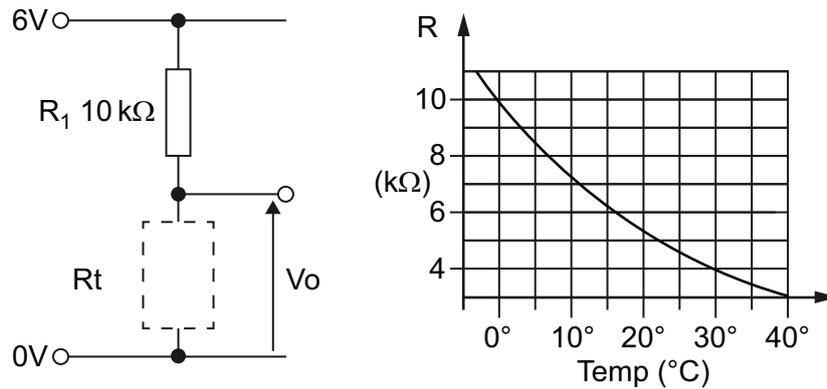

Fig. 2(a)
- 2 The voltage divider circuit shown in **Fig. 2(a)** is to be used as part of a circuit for measuring the air temperature in a greenhouse. The resistance/temperature characteristic for the thermistor R_t is also shown.
- (a) (i) Draw the circuit symbol for the thermistor referred to in **Fig. 2(a)**. [1]